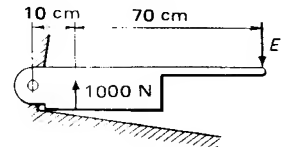

Fig. 2.47
4. Fig. 2.47 shows a bench guillotine. Find the effort E needed to supply the shearing force of 1000 N which is applied to the work.